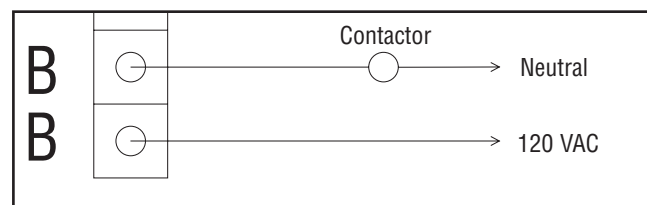

Figure 6 — Terminals "B-B"
3. Terminals "B-B" on control module are rated for 1 Amp 125 VAC and installer supplied contactor to control a large load. Example: electric hot water heater. Contacts are connected in series with the contactor control circuit (Figure 6).